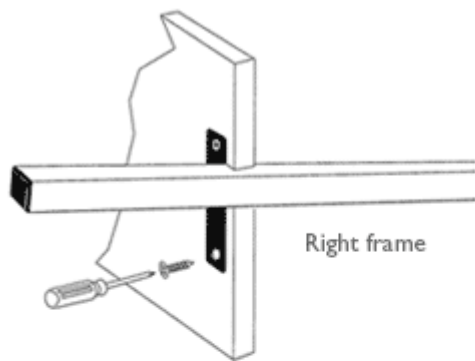

Figure 1
2. Start with the right side rail and attach the work surface (desk) to the first steel bracket mounted just above the leg. Insert screws into underside of shelf bracket and then up into the pre-drilled holes on the right side of the shelf. Tighten using a Phillips screwdriver (Figure 1).